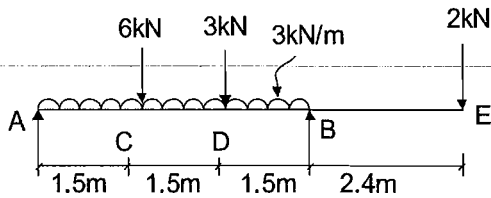

Fig.2
- b) Draw shear force diagram and bending moment diagram for the beam shown in fig. 2. Calculate the maximum bending moment and the point at which it acts. 8